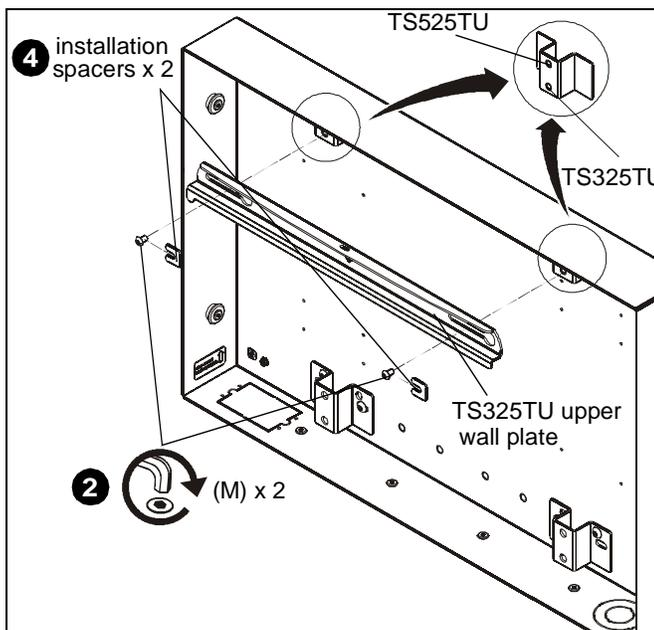
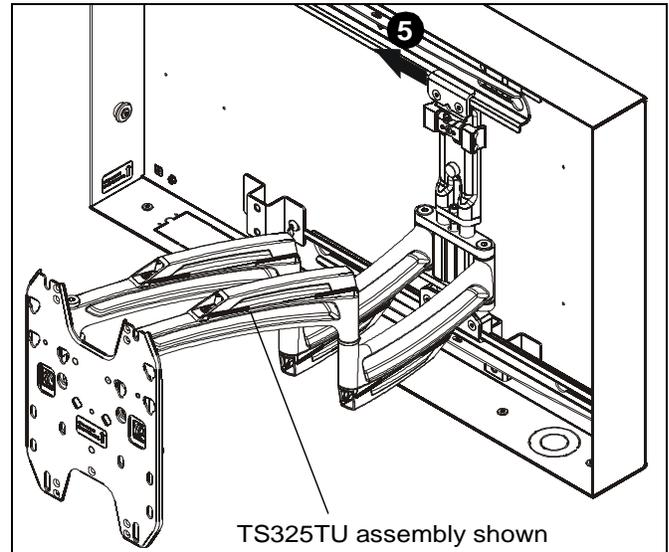

Figure 9
Figure 10
- Use two 5/16-18 x 1/2" button head cap screws (M) to loosely attach upper wall plate of TS325TU/TS525TU to upper attachment brackets (N). (See Figure 9)
IMPORTANT ! : Install to upper bracket holes for TS525TU and lower bracket holes for TS325TU. See Inset on Figure 9.
- Place two installation spacers (included with TS325TU/TS525TU) over two 5/16-18 x 1/2" button head cap screws (M). (See Figure 9)
- Tighten two screws (M) to secure upper wall plate to upper attachment brackets.
- Slide TS325TU/TS525TU assembly onto upper wall plate of TS325TU/TS525TU. (See Figure 10)